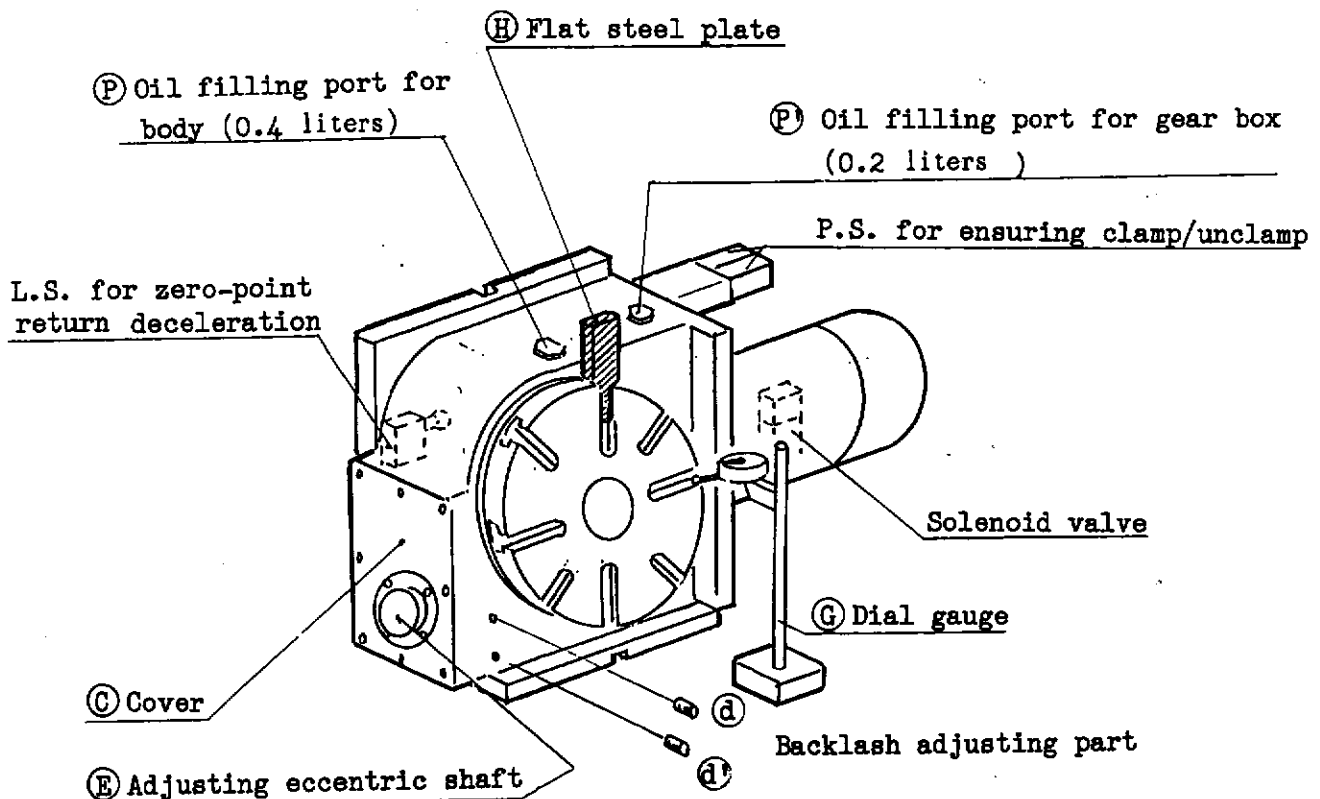

Fig.1
- 5) Here, reset the dial guage G as shown in Fig.1, loosen the bolt h and tighten the bolt g clockwise, then the eccentric shaft will turn in direction of arrow. Thus, the backlash between the worm wheel and the worm screw will get near to 0(zero). Adjust the backlash to 10~15 microns by using the bolts h and g watching the deflection of the dial guage G while shaking the outer periphery of CNC rotary table, then securely lock them again.